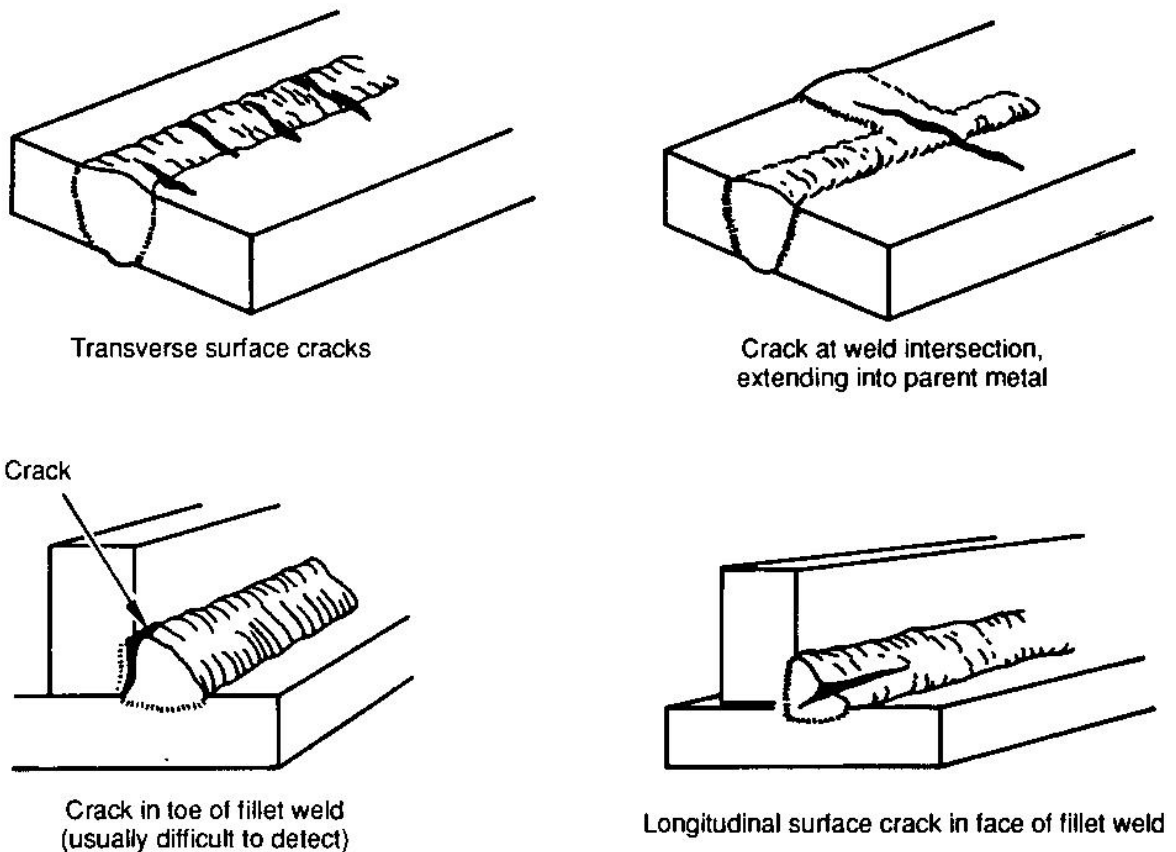

Figure 3-6 Cracking in completed welds
(7) Weld flaws (fig. 3-6): Using optical aids when necessary, examine the weld and heat-affected zone for weld flaws and if any are found check them against the acceptance criteria. In some cases visual inspection may not be sufficient to determine the full extent of